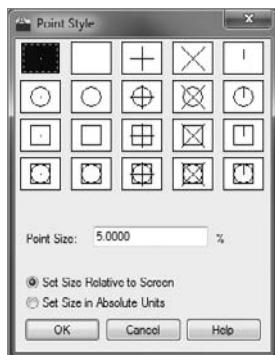

FIGURE 9.14 The Point Style dialog box
1. Thaw the A-ANNO-TTLB-TEXT layer. With the A-GRID layer current, from the menu bar, expand the Utilities panel on the Home tab and choose Point Style or enter **DDPTYPE** to open the Point Style dialog box (see Figure 9.14).